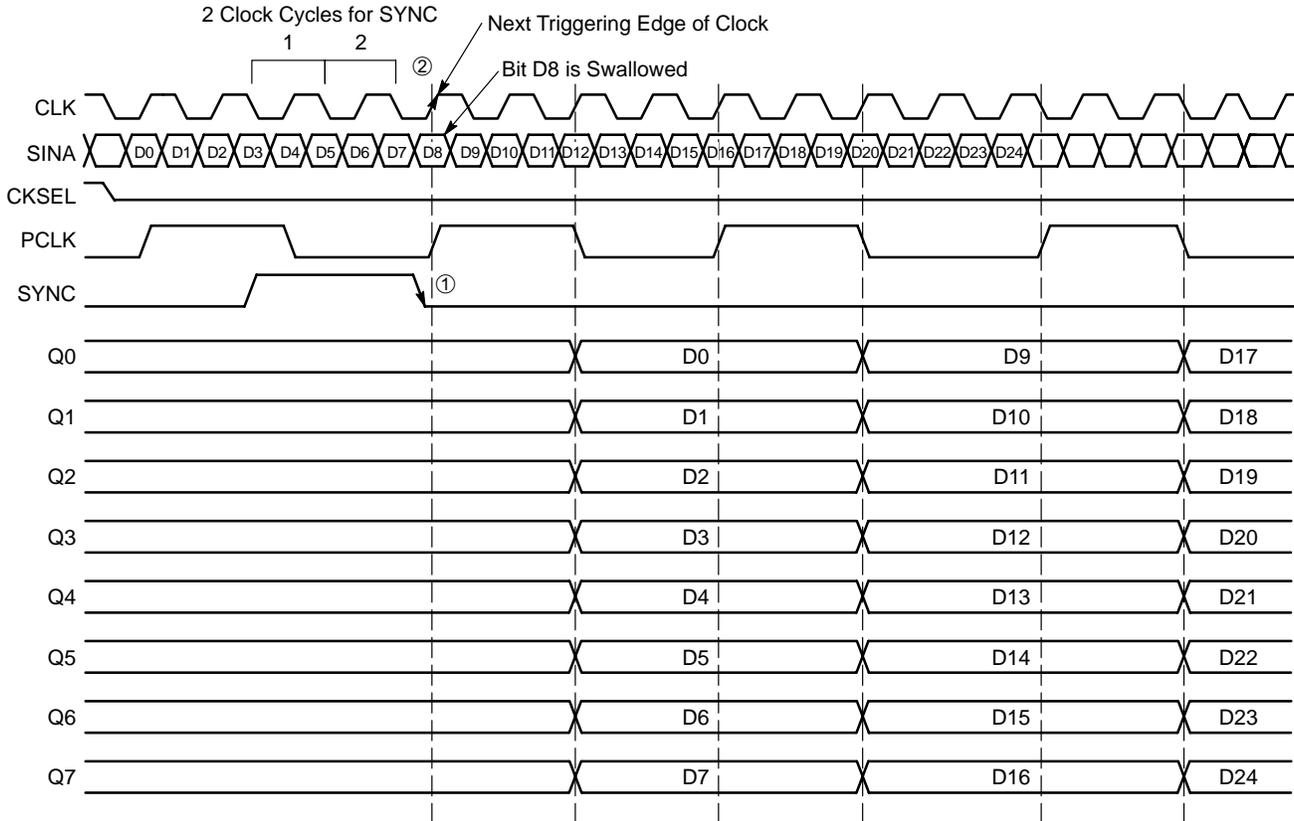
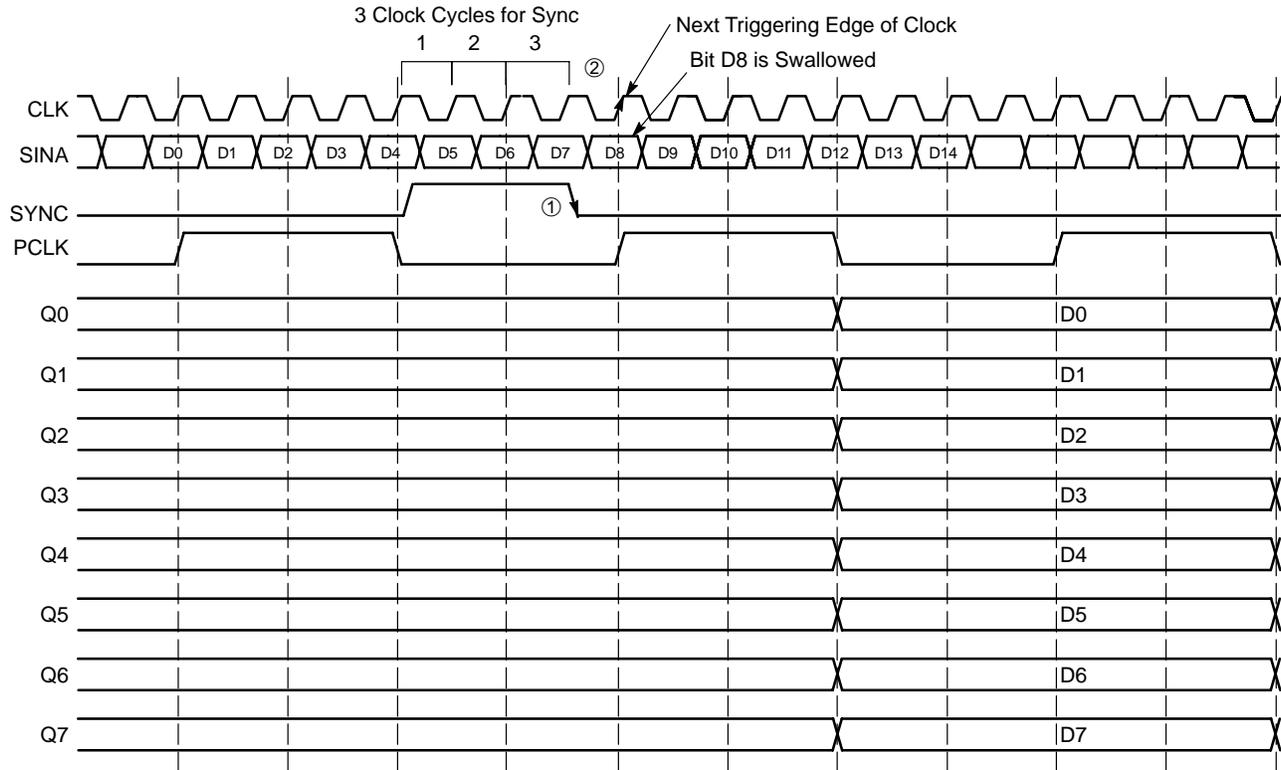

Figure 9. Timing Diagram A. 1:8 Serial to Parallel Conversion with SYNC Pulse at CKSEL LOW
Figure 10. Timing Diagram A. 1:8 Serial to Parallel Conversion with SYNC Pulse at CKSEL HIGH
To allow the user to synchronize the output byte data correctly, the start bit for conversion can be moved using the SYNC input pin (pin 2). Asynchronously asserting the SYNC pin will force the internal clock to swallow a clock pulse, effectively shifting a bit from the  $Q_n$  to the  $Q_{n-1}$  output as shown in Figure 9 and Figure 10. For CKSEL LOW, a single pulse applied asynchronously for two consecutive
clock cycles shifts the start bit for conversion from  $Q_n$  to  $Q_{n-1}$ . The bit is swallowed following the two clock cycle pulse width of SYNC① on the next triggering edge of clock② (either on the rising or the falling edge of the clock). Each additional shift requires an additional pulse to be applied to the SYNC pin. (See Figure 9)
triggering edge of clock② (on the rising edge of the clock only). Each additional shift requires an additional pulse to be applied to the SYNC pin. (See Figure 10)